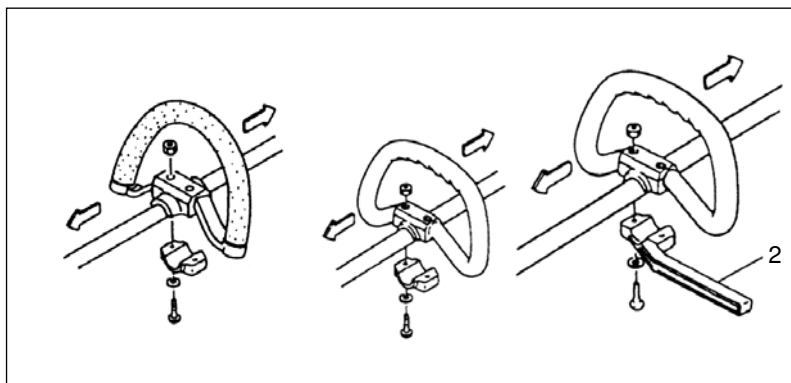

Fig.1-2
When you use steel/rigid blades on straight shaft trimmers or brush cutters, always use barrier bar (2) and shoulder harness with the loop handle. (Fig.1-2)